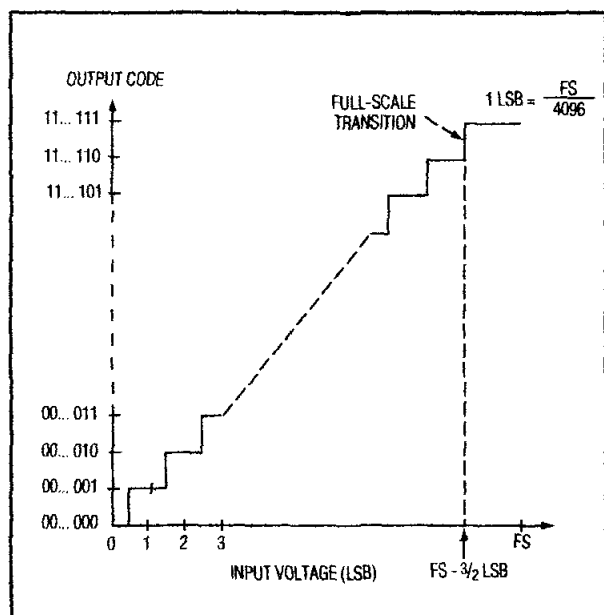

Figure 10. Unipolar Transfer Function
Output data coding for the MAX197 is binary in unipolar mode with $1LSB = (FS / 4096)$ and two's-complement binary in bipolar mode with $1LSB = ((2 \times |FS|) / 4096)$. Code transitions occur halfway between successive-integer LSB values. Figures 10 and 11 show the input/output (I/O) transfer functions for unipolar and bipolar operations, respectively. For full-scale (FS) values, see Table 1.